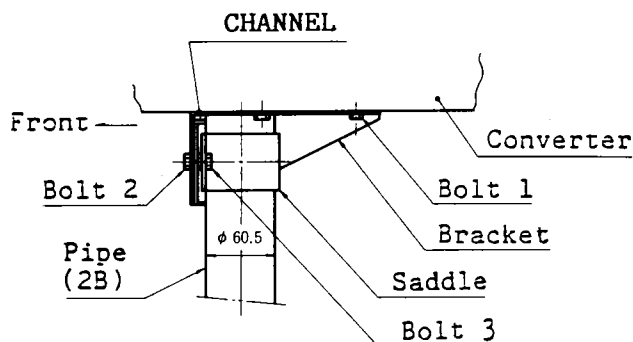

Figure 5.5 Mounting on the Pipe
(1) Pipe mounting---see Figure 5.5.